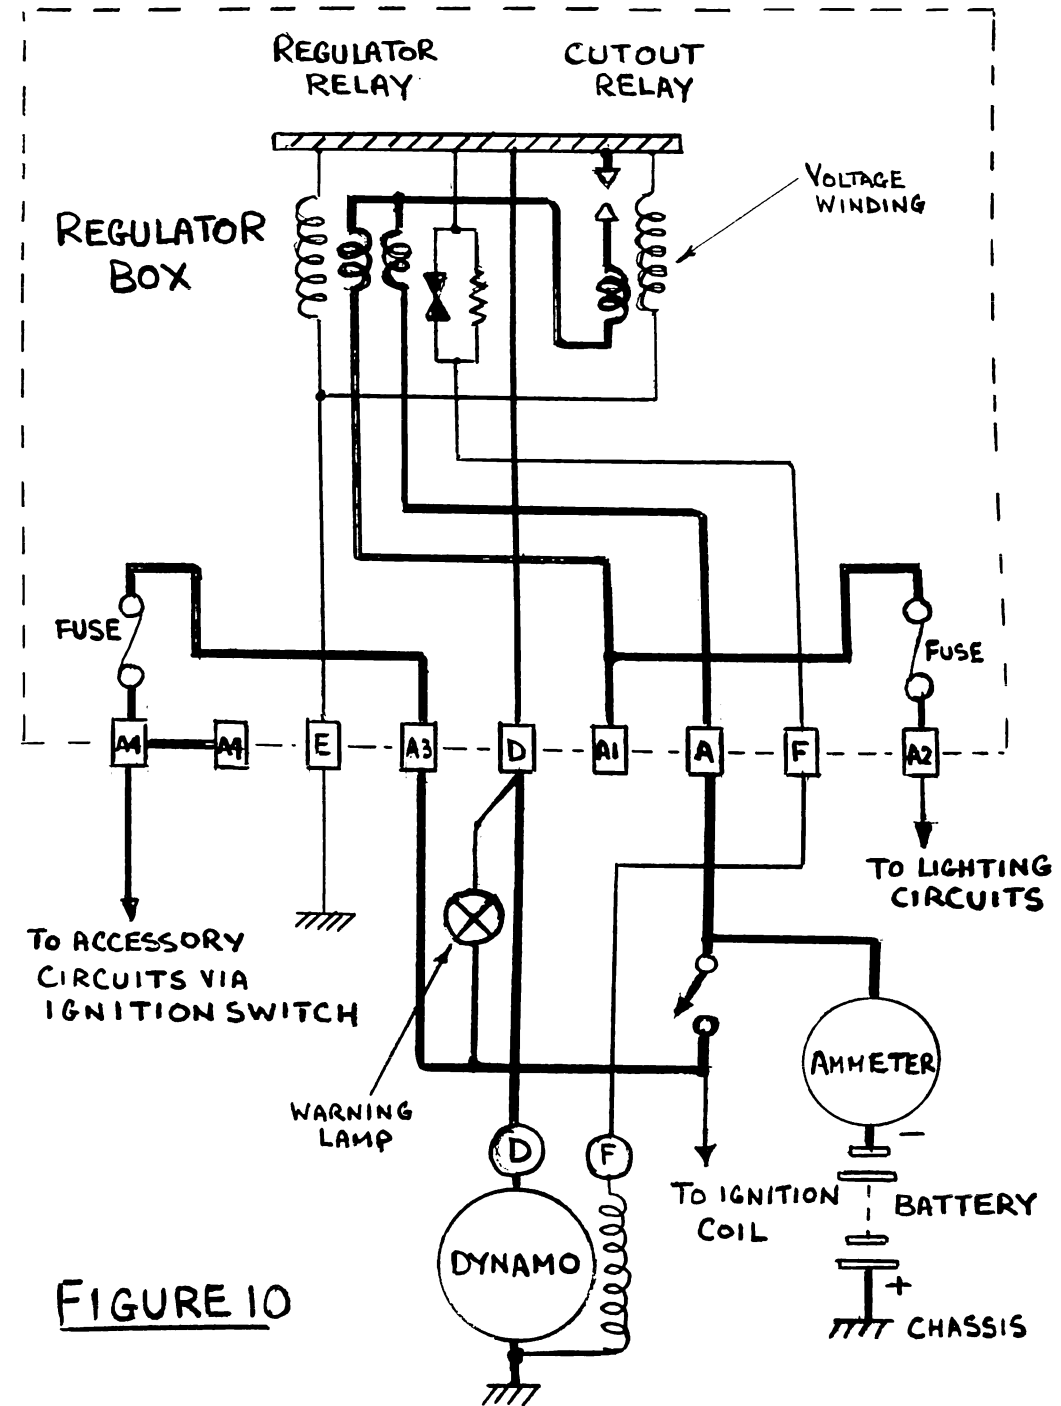

FIGURE 10
The internal electrical arrangement of the CVC regulator box is shown schematically in figure 10. Here it will be seen that there are in fact two relays. One of these is the regulator relay, which is much as has already been described and the other is the cut out relay, the operation of which will evolve in the discussion of the units operating principles. Each of the relays has a voltage winding of many turns of fine wire but on examination these will not usually be visible, being hidden beneath a layer of insulating material. What will be apparent will be overwindings of thick enamel covered wire. These overwindings which are shown diagrammatically by thick lines in figure 11, are current windings and the purpose which will become apparent in due course. The current overwindings serve to identify the relays; that for the cut out relay is usually neat and covers the full length of the bobbin and that for the regulator relay tends to be untidy and has three terminations and is sometimes wound from copper tape.
It can be seen, from figure 10, that the D connection from the dynamo output terminal is internally connected to the common frame for both relays which is insulated from vehicle earth (battery positive) by the Bakelite pedestal upon which it is mounted together with termination points for the vehicle wiring. Consequently there is a separate earth terminal (E) for connection to the vehicle chassis. The voltage windings of both relays are internally connected between D and E.
internally to D via the current winding and the contacts of the cut out relay. The purpose of this section of the current winding of the regulator relay is to protect the dynamo from damage caused by excessive charging current which can occur if the battery voltage is low due to prolonged use of the starter motor if one of more of its cells develops an internal short circuit. The Ampère-turns due to charging current aid those of the voltage winding to lower the dynamo output voltage accordingly. The other section of current winding is connected to the terminal labelled A1 and it is via this path that the dynamo supplies current to the vehicles electrical circuits. Because the Ampère turns of this section partially oppose those of the voltage winding, current through this section causes a slight increase of the dynamo output voltage to combat volt drop due to high current loadings. Protection of the dynamo against damage caused by short circuits is provided in this case by a fuse, which may or may not be incorporated in the regulator box according to model. If a fuse is fitted internally, as is shown in figure 10, the main electric circuits are connected to terminal A2. Similarly fused circuits feeding accessories connected via the ignition switch are connected to terminal A4.
The contacts of the cut out relay are arranged to make when the relay voltage winding is energised by a dynamo output voltage of about 13 volts. Charging current from the dynamo to the battery passes through the current overwinding to augment the Ampère turns of the voltage winding but, when the dynamo output drops below that of the battery, the direction of current reverses and at some point Ampère turns due to the current overwinding completely oppose those of the voltage winding and cause the relay to de-energise, so breaking the connection until the dynamo output again exceeds the battery voltage. If the dynamo is actually permitted to motor under a slack fan belt the magnitude of the reverse current is much reduced and the cut out relay does not de-energise. It is therefore essential to keep the fan belt tight to ensure that disconnection occurs. It can be seen, from the external connections in figure 10, that the ignition warning lamp is effectively connected across the contacts of the cut out relay and is thus extinguished when the relay is energised. When the dynamo is stationary a small current flows from the battery to the dynamo via the lamp and it is lit to full brightness. As the rotational speed increases the difference between the dynamo output voltage and the battery voltage decreases and the brightness of the lamp decreases accordingly; becoming fully extinguished when the contacts close.